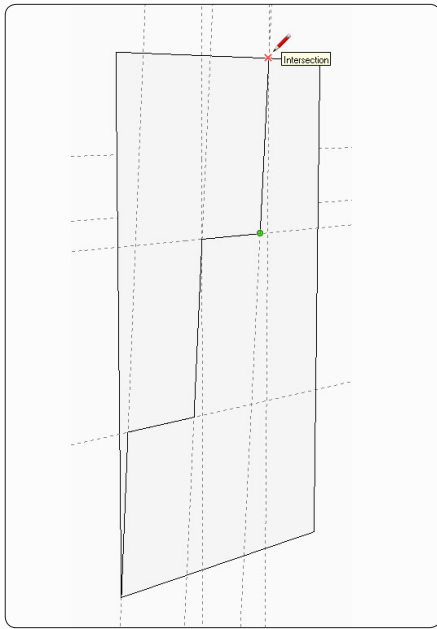

Figure 7. Trace over the guidelines to make the shape of the side.
Step 2 Use the Line Tool to trace over the guide lines for the treads and risers in the side piece (Figure 7).